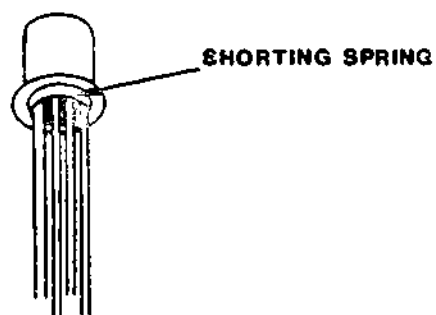

Figure 20
- (21.) One problem with the design of both single-gate and dual-gate MOSFETs is that they can be destroyed very easily by a discharge of static electricity. As you know, static electricity is the charge that causes you to get a shock when you touch grounded objects on a low humidity (dry) day. To combat this problem, MOSFETs are packaged with their leads all shorted together with a shorting spring (wire). This spring must not be removed until the MOSFET is soldered or plugged into a circuit. One such spring is shown in Figure 20.